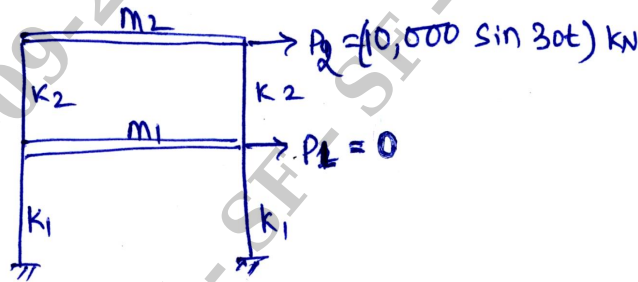

Fig.Q8
- 8 Compute the response due to harmonic loading for the shear building as shown in Fig.Q8. The stiffness of floor; $K_1 = 7.5 \times 10^6$ N/m, $K_2 = 15 \times 10^6$ N/m, mass of floor; $m_1 = 85 \times 10^3$ kg, $m_2 = 60 \times 10^3$ kg. The damping matrix is; $[c] = \begin{bmatrix} 175.23 & -75 \\ -75 & 118.25 \end{bmatrix} \times 10^3$ N-s/m. The results of free vibration analysis, the natural frequencies $\omega_1 = 9.17$ rad/s, $\omega_2 = 30.58$ rad/s. The mode shapes, $\phi_1 = \begin{Bmatrix} 0.81 \\ 1.0 \end{Bmatrix}$, $\phi_2 = \begin{Bmatrix} -0.87 \\ 1.0 \end{Bmatrix}$.